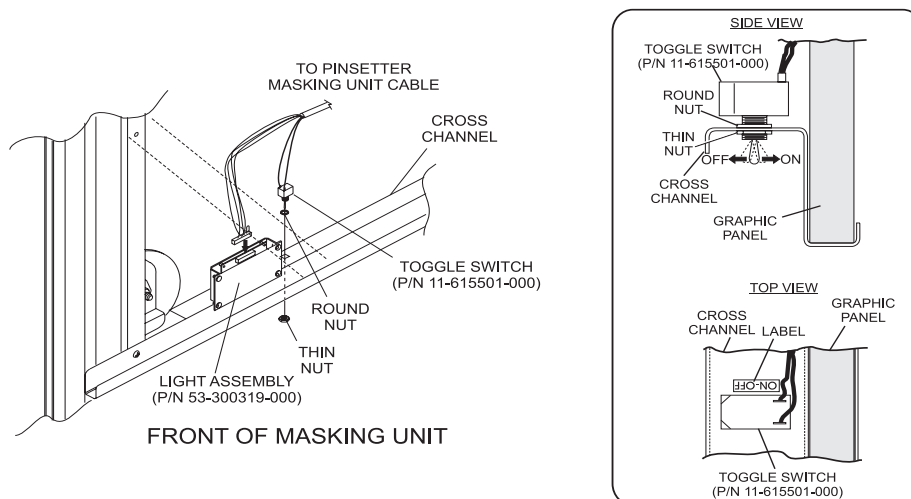

Figure 2
3. Thread the round nut halfway onto the toggle switch. Insert the switch into the hole on the cross channel and secure with the thin nut. Refer to Figure 2.
4. Check the switch for position and install "ON/OFF" decal. Refer to Figure 2.